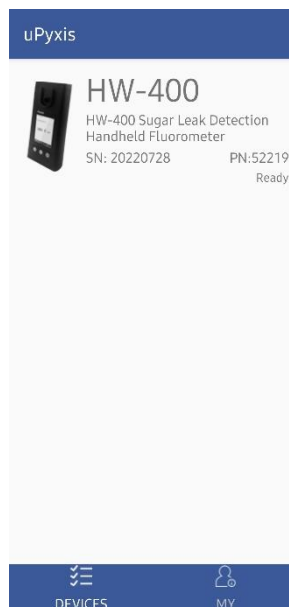

Figure 15.
4. If the connection is successful, the HW-400 and its Serial Number (SN) will be displayed (Figure 15).